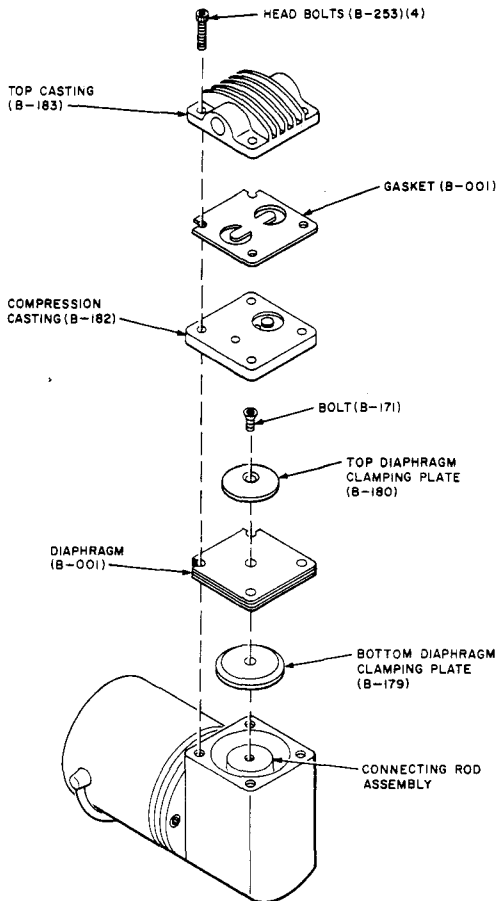

Fig. 1—Expanded View of Air Compressor Assembly for B Air Dryers
- (1) Follow the preliminary procedures covered in 2.04.
- (2) Disconnect the tubing fitting from the compressor head.
(3) Remove the four head bolts from the compressor, using the 3/16-inch Allen wrench provided (clamped on the fan guard). This will release all parts down to the main diaphragm as shown in Fig. 1. Replace the valve gasket.